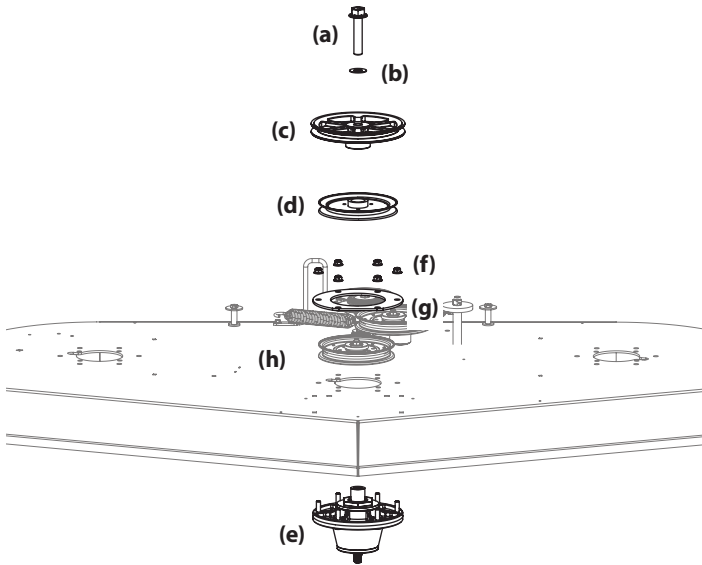

Figure 41
8. Remove the hex flange bolt (a) and flat washer (b) securing the drive pulley (c) and center spindle pulley (d) to the spindle assembly (e). See Figure 41.
9. Remove the six (6) flange lock nuts (f) securing the center (d) spindle assembly (e) and the support plates (g) to the deck shell (h). See Figure 41.